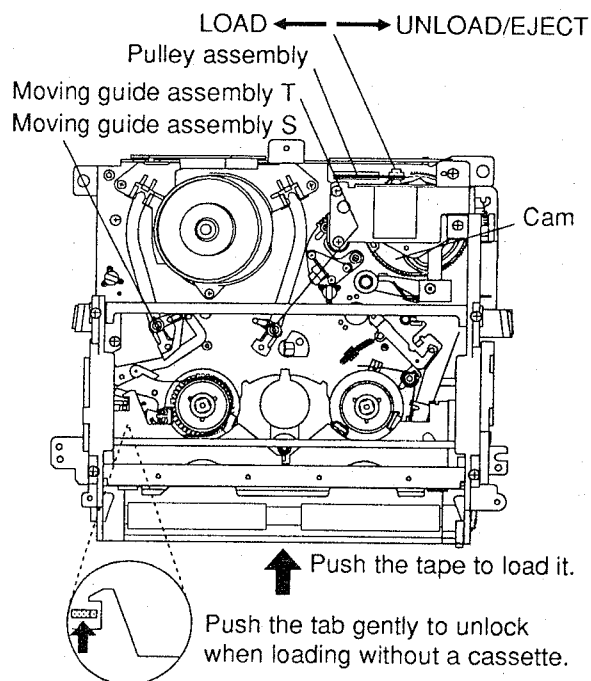
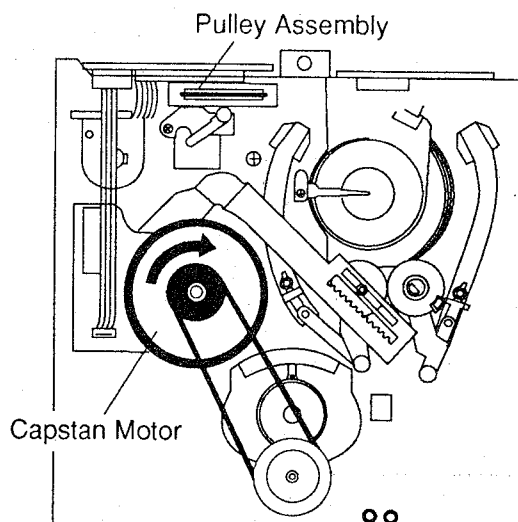

Fig. M1
Fig. M2
4. Turn the Pulley Assembly in the appropriate direction shown in Fig. M1 until the cassette tape is fully loaded. By turning the Pulley Assembly, you are turning the cam indicated in this figure. However, movement of the cam will be very slow. Allow a minute or two to complete this task.
3. Turn the Pulley Assembly in the appropriate direction shown in Fig. M1 to unload the cassette tape. When turning the Pulley Assembly, please be aware that this is a long process and the cassette will not start getting unloaded instantaneously. Within this long process, before the cassette actually starts getting unloaded, there is a time period during which the moving guide assemblies slide back to their original positions shown in Fig. M1. However, the tape will be left wound around the cylinder. To put the tape back into the cassette, gently turn the Capstan Motor in the direction shown in Fig. M2. Make sure that the tape is completely placed back in the cassette before the cassette starts getting unloaded. Otherwise the tape hanging out will be caught and damaged by the lid of the cassette when it closes. By turning the Pulley Assembly, you are turning the cam indicated in Fig. M1. As stated, movement of the cam will be very slow. Allow a minute or two to complete this task.
3. Turn the Pulley Assembly in the appropriate direction shown in Fig. M1 until the Cassette Holder comes to the tape-loaded position. Allow a minute or two to complete this task.